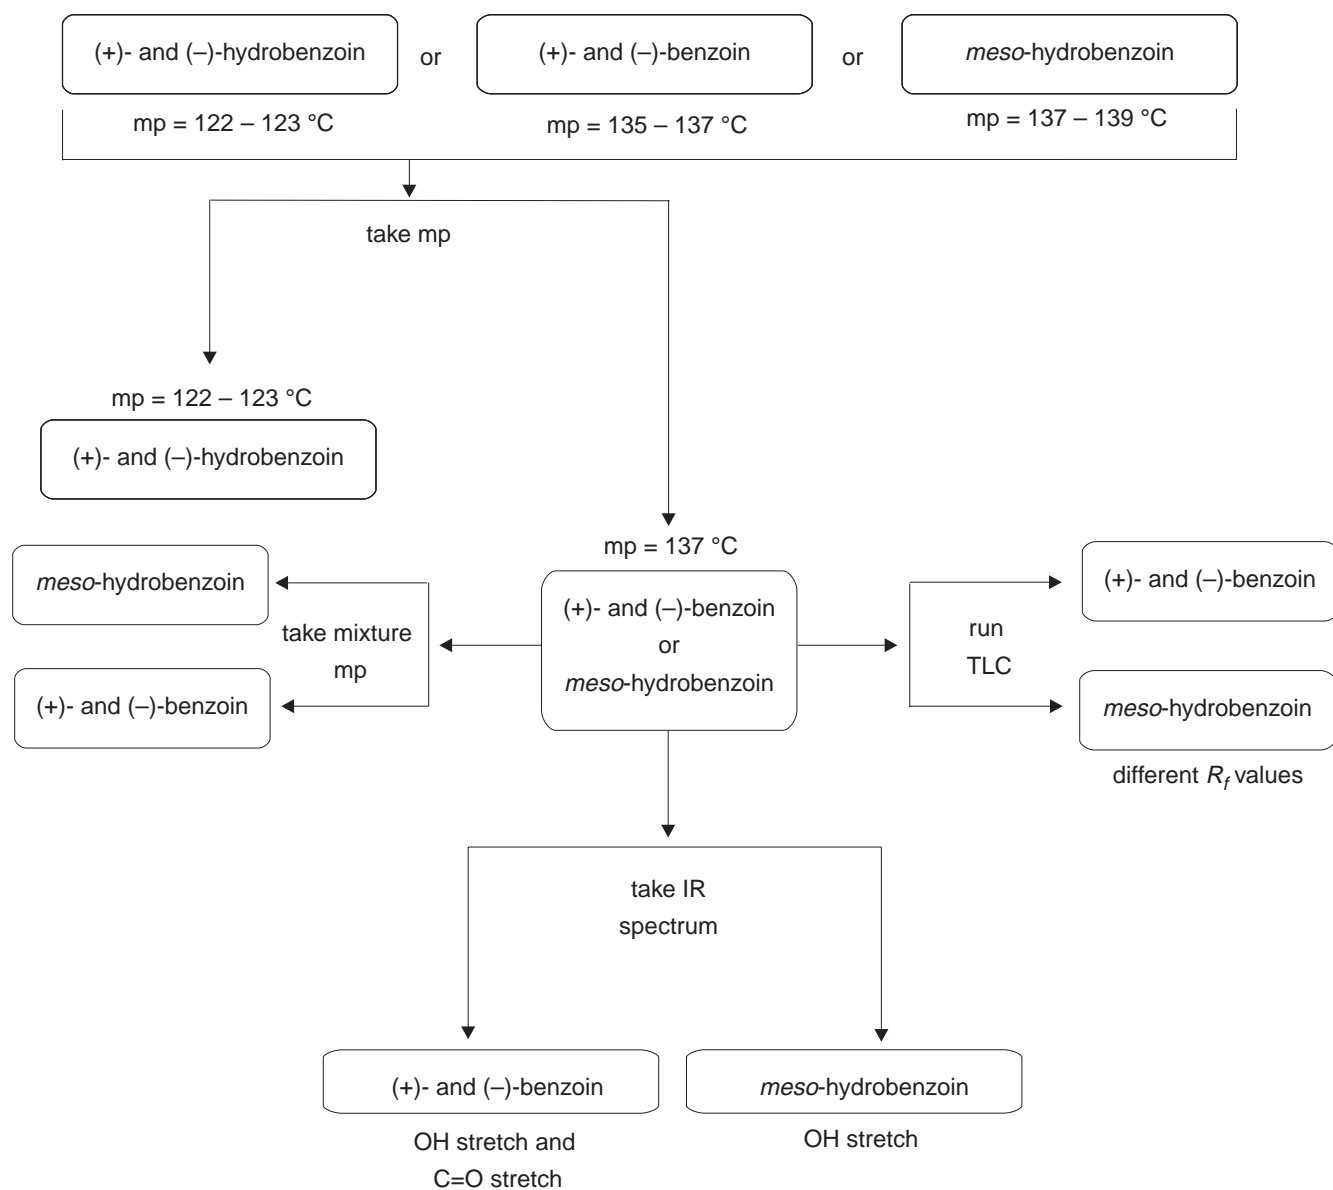

Figure 4 Flowchart used to identify the reduction product
The third method utilizes infrared spectroscopy (IR). The IR spectrum of (\pm)-benzoin shows both a carbonyl and an –OH stretch, while that of *meso*-hydrobenzoin is lacking the carbonyl stretch. Comparing the IR spectrum of your product with those of the standard compounds allows identification. A flowchart summarizing these three identification methods is shown in Figure 4.